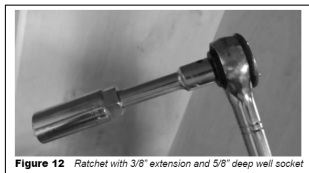
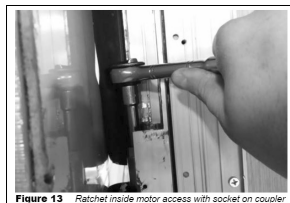

Figure 12 Ratchet with 3/8" extension and 5/8" deep well socket
Figure 13 Ratchet inside motor access with socket on coupler
7. Place a socket wrench with a 3 inch extension and a 5/8" deep well socket (Fig 12) through the motor access opening and seat the socket onto the coupler (Fig 13). One man alternating from side to side of the room can retract a 1500 lb. room with or without a ramp.